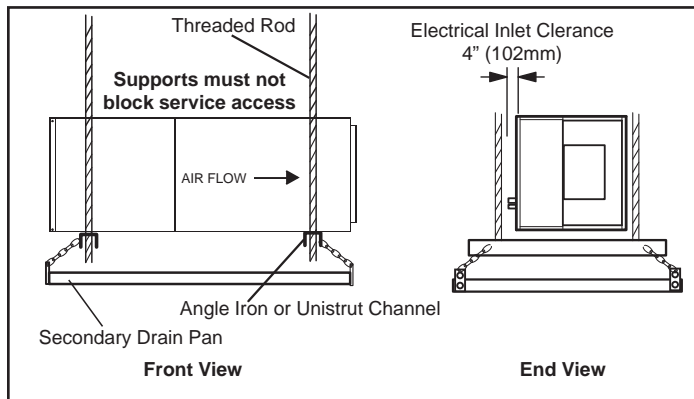

Figure 3. Suspending Horizontal Unit
4. A typical horizontal configuration is shown in figure 3.